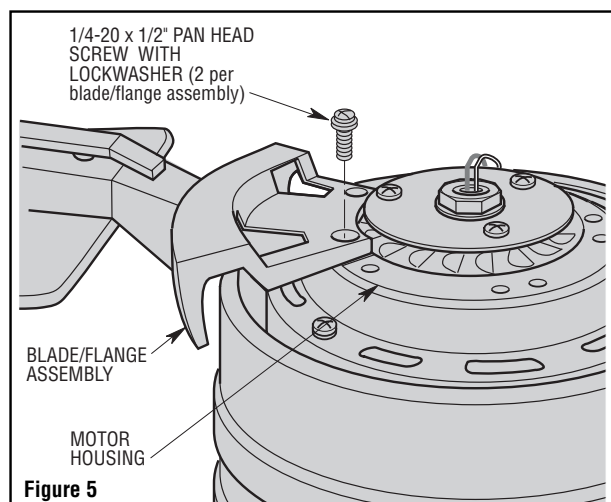

Figure 5
11. Install one blade assembly on the top of the motor housing using two 1/4-20 x 1/2" pan head screws with lockwashers (supplied) (Figure 5).